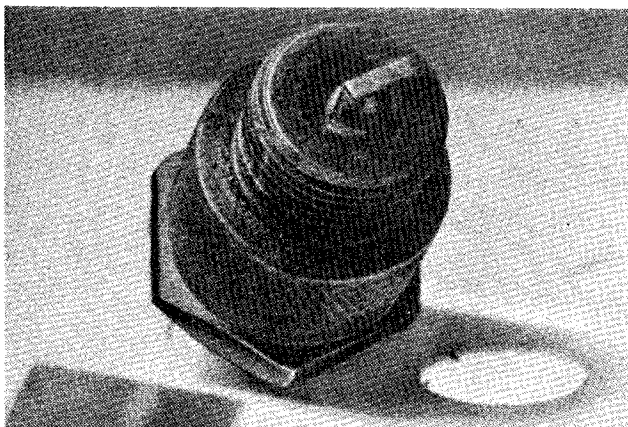

Fig. 42 A Blistered Insulator.
- (e) Occasionally a blistered insulator or baldy burned electrode may be noted when examining plugs (Fig. 42). If the plug is the type normally recommended for the engine and was correctly installed, *i.e.*, down tight on the gasket—the condition may have been brought about by a very "lean" mixture, or overheated engine. It is well to remember that plugs operating in the condition described above are often the cause of poor engine performance and extravagant petrol con-